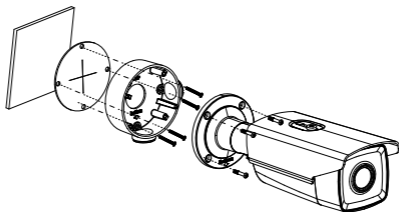

Figure 2-14 Install the Camera onto the Junction Box
- 4) Fix the bullet camera to the junction box with the supplied screws, as shown in Figure 2-14.